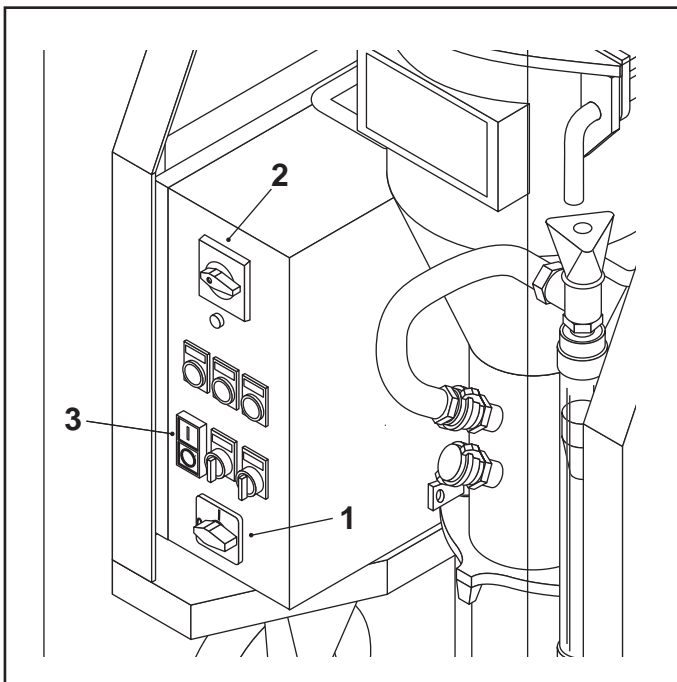

FIG.25
- Always disconnect the machine power supply, positioning the master switch (FIG.25-REF.2) at position 0 (zero), before removing or re-mounting any component or accessory of the machine itself.
- Stop the dispenser using the material dispenser switch (FIG.25-REF.1) and continue to pump until only water escapes from the gun.